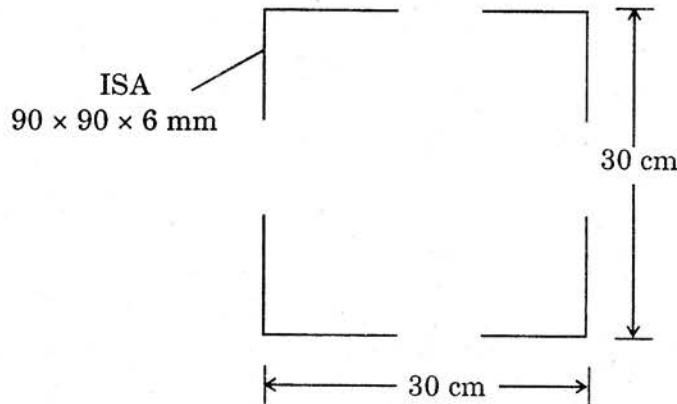

Fig. 2
13. (a) A built up column with four angles ISA 90 mm × 90 mm × 6 mm as in Fig. 2. The column is 12 m long and supports a factored axial compressive load of 700 kN. The ends of the column are held in position and restrained against rotation. Design double lacing system. Use steel of grade Fe 410.